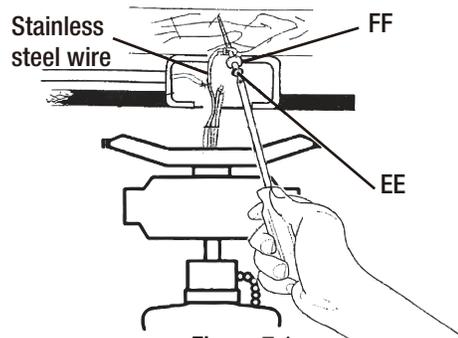

Figure 7.1
- An additional safety support is provided to prevent the fan from falling. Secure the stainless steel wire to the ceiling joist with screw and washer (EE & FF) provided, illustrated in Figure 7.1.